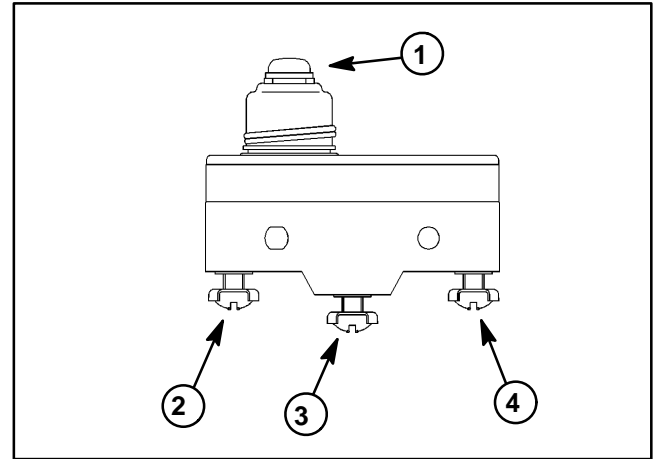

Figure 8
The common terminal and normally open terminal of the switch are used for the operator presence system on the Flex 18 and Flex 21 (Fig. 8). The normally closed terminal is not used.
1. With the bail released (away from the handle), there should be no continuity between the two terminals used on the Operator Presence Kit switch (Fig. 8).